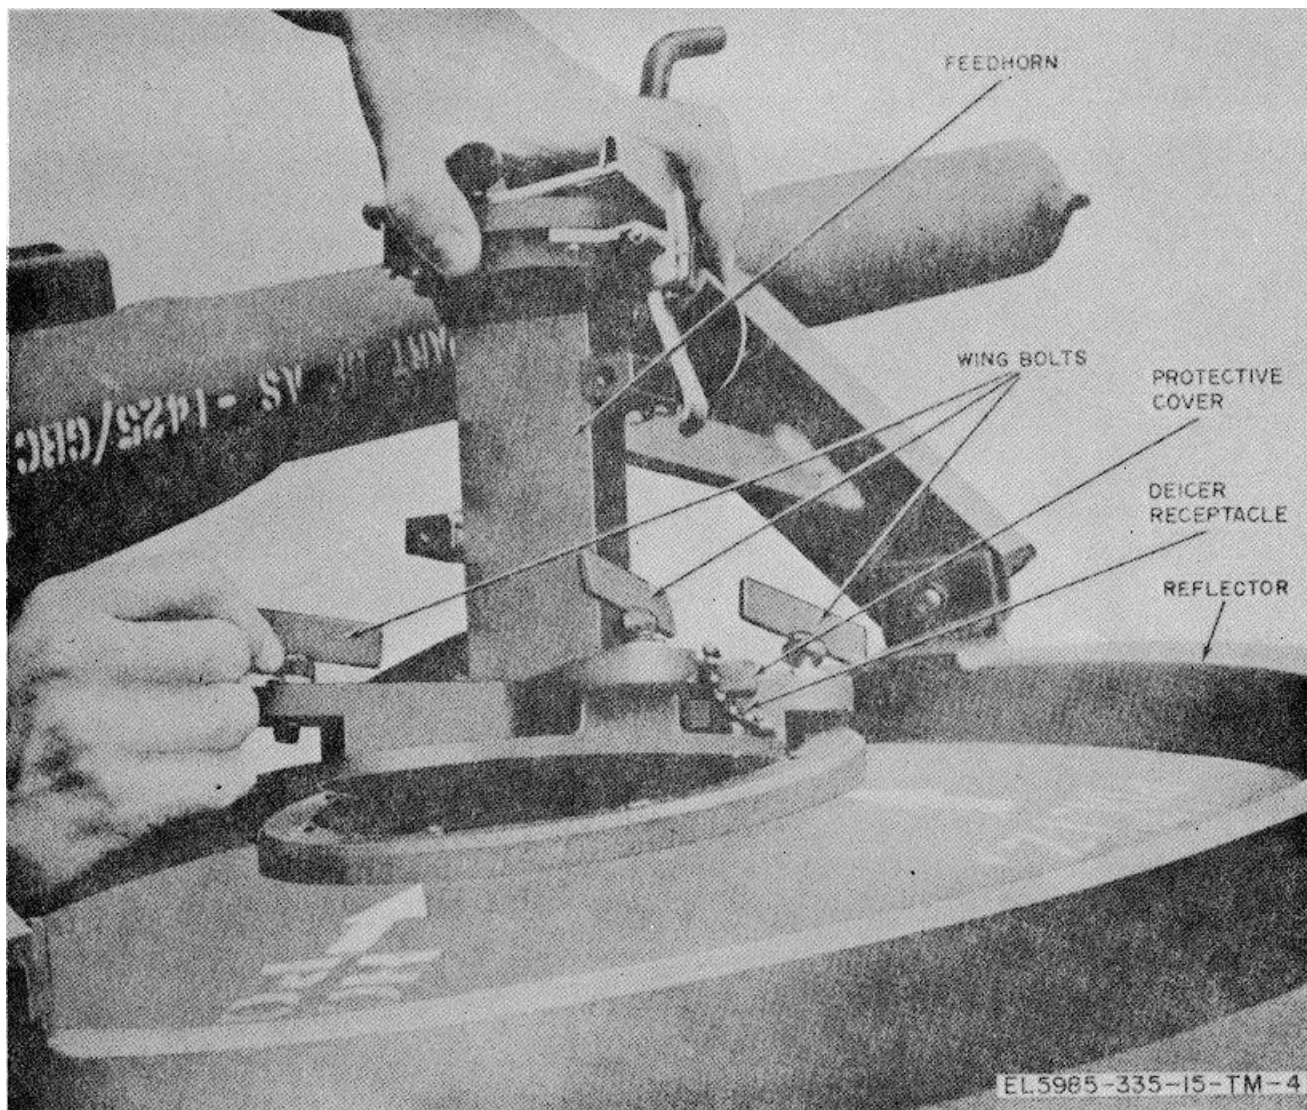

Figure 2-7. Mounting feedhorn to reflector.
- g. Mount the feedhorn to the reflector with the four wingbolts as shown in figure 2-7. Stow the feedhorn flange cover plate, using the stowage bolt holes near the flange.
- h. If use of the deicer equipment is anticipated, connect ac power (115 volts, 60 Hz) at the power connector shown covered in figure 2-7 on the feedhorn assembly.
- f. Mount the feedhorn to the reflector with the four wingbolts as shown in figure 2-7. Stow the feedhorn flange cover plate, using the stowage bolt holes near the flange.
- g. If use of the deicer equipment is anticipated, connect ac power (115 volts, 60 Hz) at the power connector (shown covered in fig. 2-7) on the feedhorn assembly.